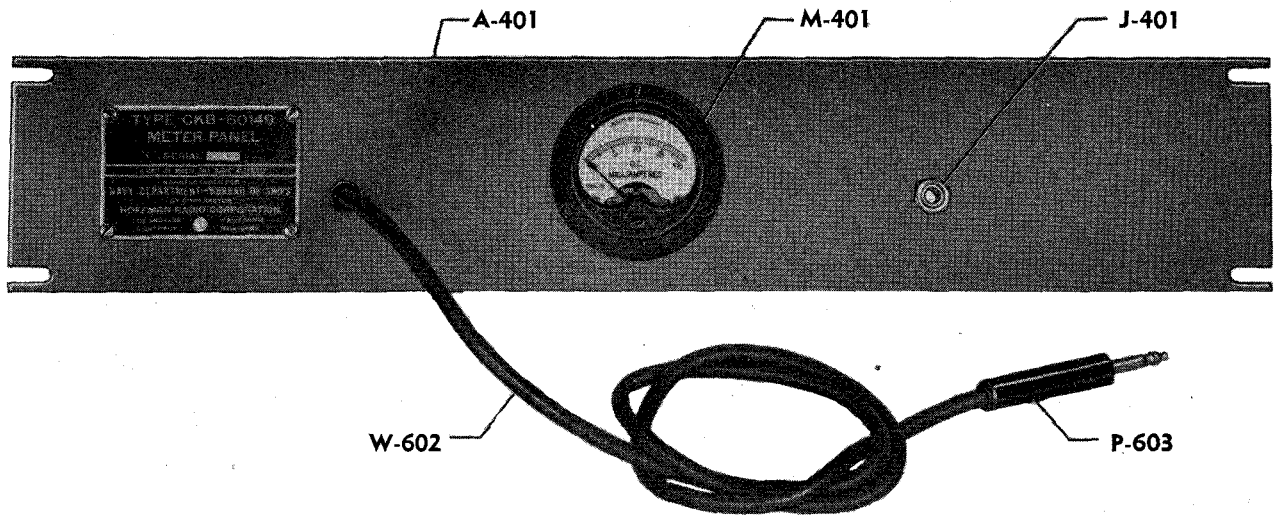

Figure 1-5. Model RXA Antenna Multicoupler Assembly, Meter Panel
*d.* METER PANEL. (See figure 1-5.)—A zero to 20-milliamper d-c meter is mounted on the panel for the purpose of measuring the cathode currents of the multicoupler unit vacuum tubes. A 36-inch